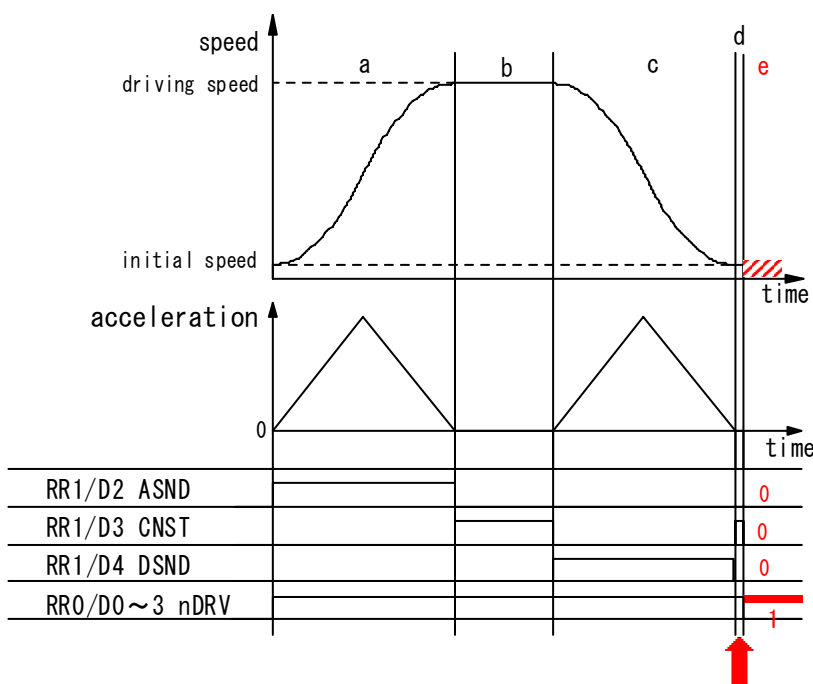

Figure 3. Status of deceleration shown by RR1 register
Deceleration status of accelerating(ASND), constant speed driving(CNST) and decelerating(DSND) can be read out according to RR1 register of IC. The status is shown as Figure 3. as below;
The timing when the trouble may possibly happen is shown as “d” on Figure 3. At this time, status of deceleration is constant speed driving(CNST=1). Besides in case the trouble such as outputting pulse continuously happens, all of ASND, CNST and DSND will become 0 even though it’s driving(RR0/nDRV=1).
Basically once deceleration starts, it isn’t necessary to execute deceleration stop command. Therefore deceleration stop command should be prohibit. See nRR1/D4(DSND) normally to know it’s decelerating or not. Timing when the trouble happens is in “d” as shown on Figure 3 if deceleration stop command is executed. In “d” DSND status bit is 0 and CNST status bit is 1. Therefore the following two(2) solutions will be proposed.
(1) When interruption from IC can be used
Terms when deceleration stop command should be executed in accelerating and constant speed driving such as "a" and "b" on Figure 3. Status of deceleration for both "d" (timing when the trouble happens) and "b" (constant speed driving) is same as constant speed driving as shown on Figure 3. But there is difference of driving speed between two. Driving speed in "b" is near that of setting driving speed. Driving speed in "d" is near that of initial speed. Therefore before driving starts, prepare judgmental speed which is middle one between initial speed and setting speed ( $(\text{Driving speed} - \text{initial speed})/2 + \text{initial speed}$ ). When execute deceleration stop command during driving, make sure status is accelerating(ASND=1) or constant speed driving(CNST=1) and driving speed is same or faster than judgmental speed.
Constant speed area ("b" area) on Figure 3 is set as occurrence factor of interruption. But this interruption is also happened when there is "d" area just before driving stops on Figure 3 such as when driving speed reaches initial speed or when acceleration becomes 0(zero). There should occur "d" area definitely if the trouble is happened just before driving stops, driving speed hasn't reached initial speed yet, acceleration becomes 0 and decelerating stop requirement is executed. The measure is to judge if the trouble happens or not in the timing of interruption when "d" area ends.
- ① Check if driving goes out constant speed area or not. If RR3/D5(C-END) bit of driving axis is 0, there are other interruption factors. Execute those interruption processing.
- ② Check if driving goes into decelerating area or not. If it's RR1/D4(DSND)=1, make it finished as it goes because driving goes into "c" area from "b" area on Figure 3. If it's RR1/D4(DSND)=0, move it to ③ processing because driving has gone out "d" area.
- ③ Check if driving has finished or not. If it's finished, make it finished as it goes because driving has finished normally. But if it's not finished yet, surely trouble have happened because status is shown as it's still driving even though driving has gone out "d" area.
- ④ Check if hard limit is ON or OFF. Since RR1/D12 bit becomes 1 if + limit is ON and RR1/D13 bit becomes 1 if - limit is ON, if it's D12=1 or D13=1, judge forward limit is ON.
- ⑤ If trouble has happened, it becomes ASND=CNST=DSND=0. Check them all.
- ⑥ Execute sudden stop command(27h).
(2) When interruption can't be used
In "d" area on Figure 3, if forward limit is active, the trouble will happen, more exactly saying, it will seldom happen. There isn't any method to avoid it before it happens. So immediately after the trouble happens, take means to stop driving. If the trouble happens ("e" area on Figure 3), status keeps driving(RR0/nDRV=1), status of acceleration/deceleration is 0 in ASND, CNST, DSND. This is completely abnormal state. So the example of measure is shown as follows;